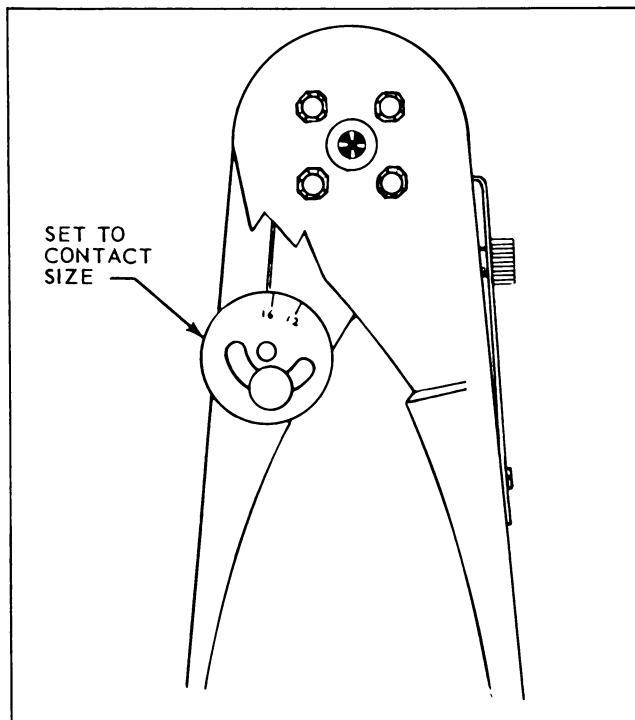

Figure 3-55. Adjustment of Bendix Scintilla 11-3284-1 Crimping Tool for Contact Diameter
- Set eccentric stop to #16 or #12 to match contact size. See Figure 3-55.